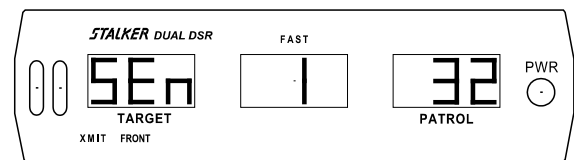

Fig 15
The range (or sensitivity) of **STALKER DUAL DSR** is adjusted by pressing the **SEn** key. This key cycles through the four (4) sensitivity levels; **SEn 1**, **SEn 2**, **SEn 3**, and **SEn 4** (Fig 15 - Fig 18, respectively). In each case, the center display refers to the current sensitivity setting. The shortest range is **SEn 1** (Fig 15), and the longest range is **SEn 4** (Fig 18). **The range (or sensitivity) must be set for same lane moving mode and opposite lane moving mode separately.** While in each mode, (same lane and opposite lane), indicated by the presence or absence of the **SAME** icon, set each sensitivity as described above.